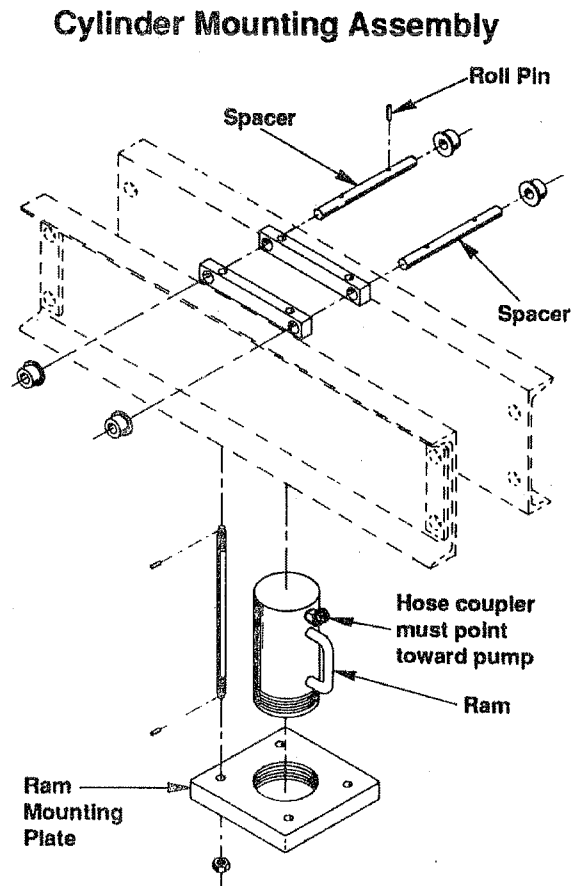

FIGURE 3
- B. See Figure 3. Remove the four pins and spacers that connect the ram mounting plate to the threaded rods of the cylinder mounting assembly. Remove the mounting plate.